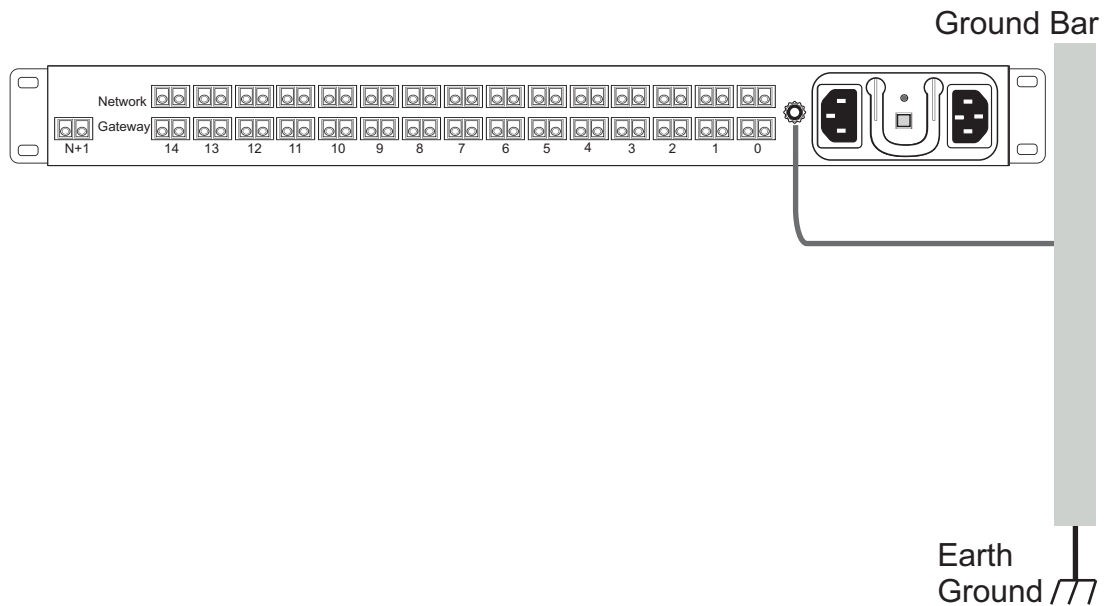

Figure 6.2 Chassis Ground Connection
1. Connect one end of a ground wire to the ground lug of the 7800 N+1 Patch Panel. See figure 6.2 on page 51.